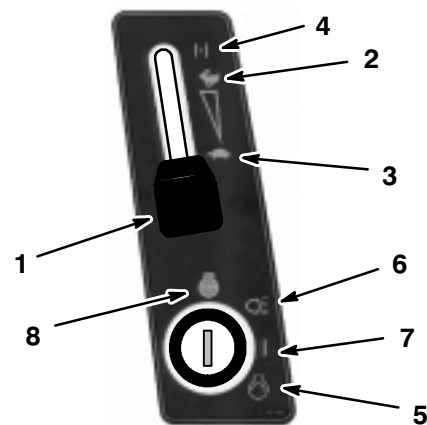

Figure 10
5. When starting a cold engine move the throttle lever to the “CHOKE” position (Fig. 10).
6. Turn the ignition key clockwise and hold it in the “START” position (Fig. 10). When the engine starts, release the key.
7. After the engine starts, slowly move the throttle to FAST (Fig. 10).
1. Move the throttle lever to SLOW (Fig. 10).
2. Turn the ignition key to OFF (Fig. 10).